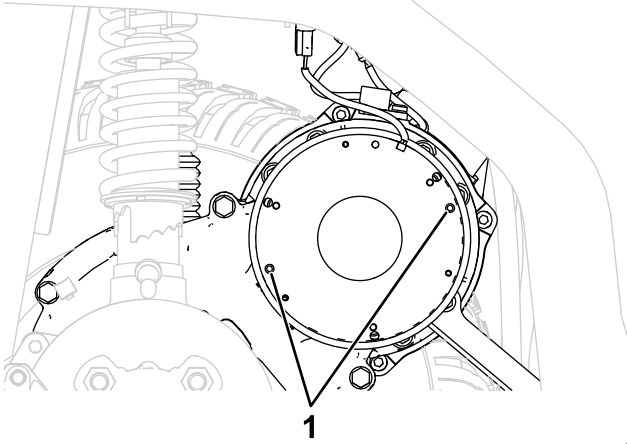

Figure 19
- To release the parking brake, insert 2 screws (M5-0.8 x 45 mm) in the holes shown in Figure 19 and slowly tighten them.